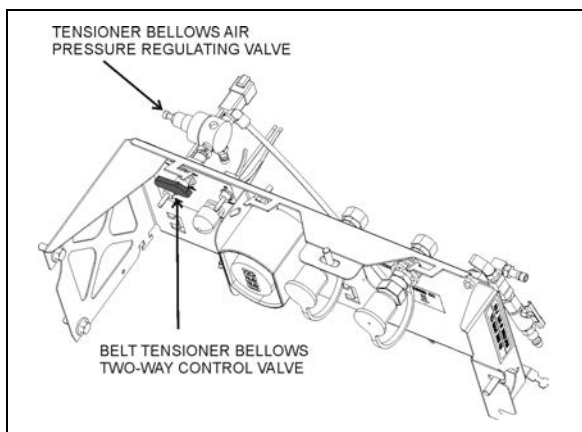

FIGURE 27: BELT TENSIONER CONTROL VALVE - H SERIES
2. For vehicles equipped with a 3rd alternator, belt tensioning is also applied through air bellows (Figure 25). Turn the belt tensioner two-way control valve counterclockwise to release bellows pressure (Figure 27).
For H Series vehicles equipped with a 3rd alternator, (Figure 25) belt tensioning is also applied through air bellows which is adjusted by an air pressure regulating valve pressure (Figure 27). The correct pressure of 45 psi is set at the factory. Periodically verify the pressure using a pressure gauge and correct if required.
Belt tensioning is applied through air bellows which are adjusted by an air pressure regulating valve (Figure 27). The correct pressure of 45 psi is set at the factory. Periodically verify the pressure at the regulating valve using a pressure gauge and correct if necessary.